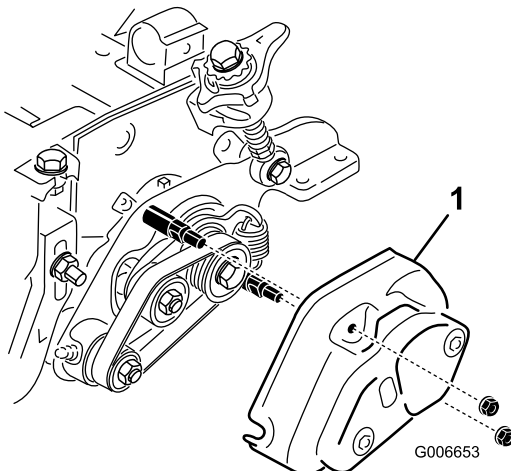

Figure 51
8. Make sure nuts on groomer and roller brush covers (Figure 51) are not over tightened.